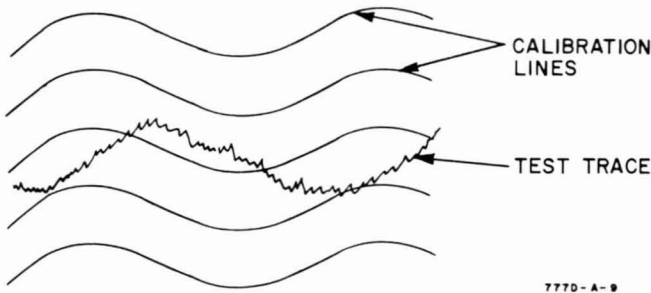

Figure 3. Typical Recorder Plot
e. Switch SWR Meter range switch down 20 dB and record a trace. (See Figure 3)